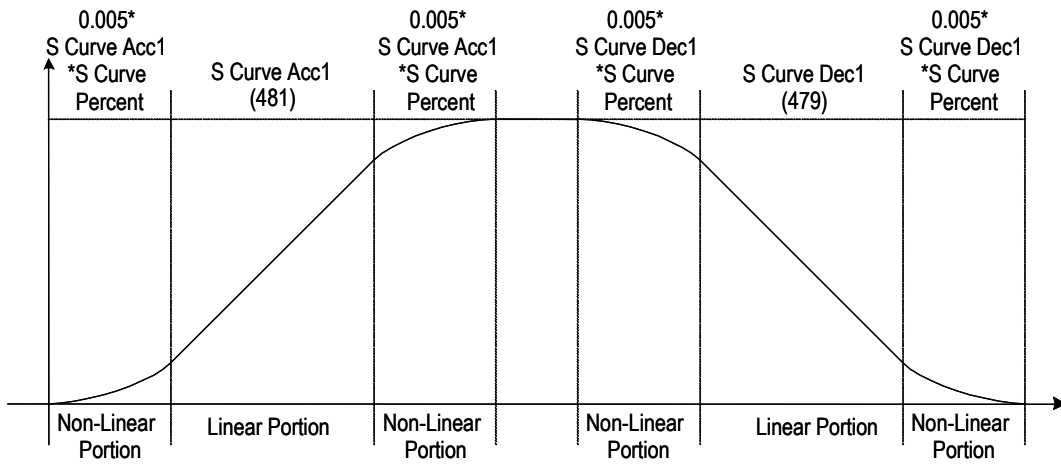

Figure 5.2 – Speed Reference: S-curve
To select, *S-curve* a non-zero value of *S-curve Percent* (475) is selected. Using parameter *S curve Acc1* (481), the drive automatically calculates the linear and the non-linear portions of the S-curve as shown in Figure 5.2. Following example shows how to use S-curve parameters:
The parameters for deceleration are calculated using parameter *S curve Dec1* (479) and *S-curve Percent* (475) and shown in Figure 5.2.